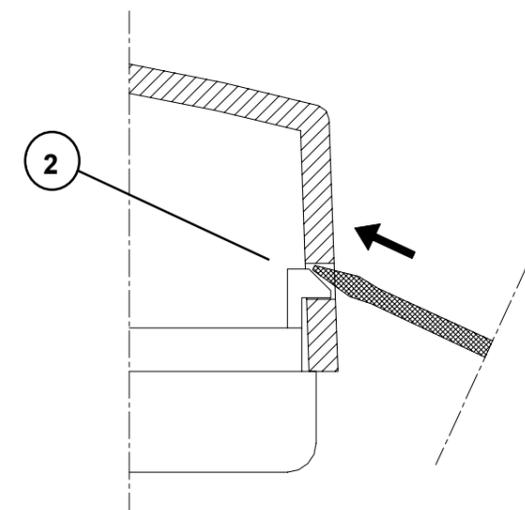

Fig. 2: Cover removal.
Place the plastic front cover on the plastic base paying attention in that the holes for the indicators located on the front cover will fit in the relevant LEDs on the board, then press slightly until the four plastic side teeth snap (2) Fig. 2.